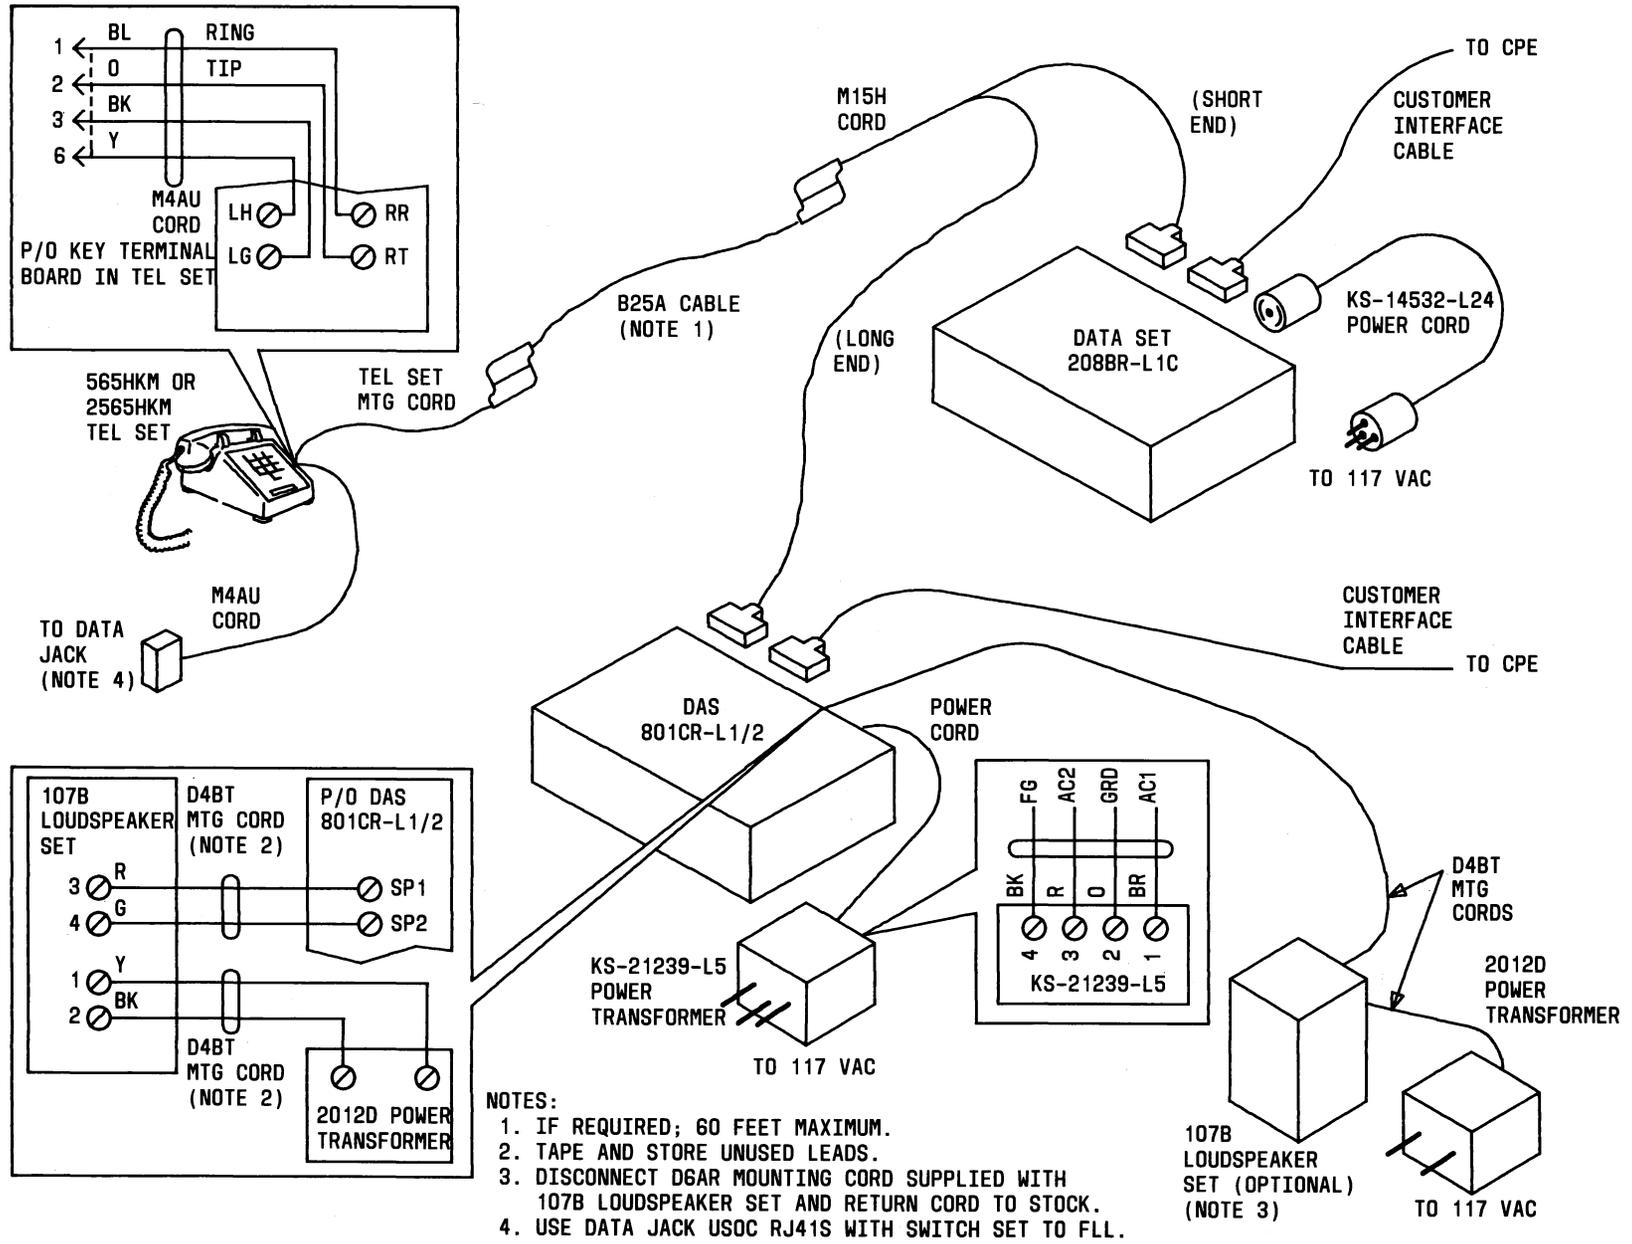

Fig. 9—Single Data Set With ACU and Telephone Set—Connection Diagram
- D4BT cord (2)—optional
**4.06 Single Data Set With ACU and Telephone Set:** The connection diagram for this arrangement is Fig. 9.